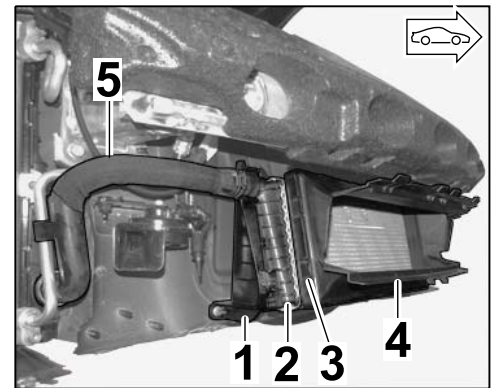

Figure 28
4.2 Install –middle– radiator ( ⇒ *Workshop Manual '198019 Removing and installing middle radiator', ⇒ Figure 28*).